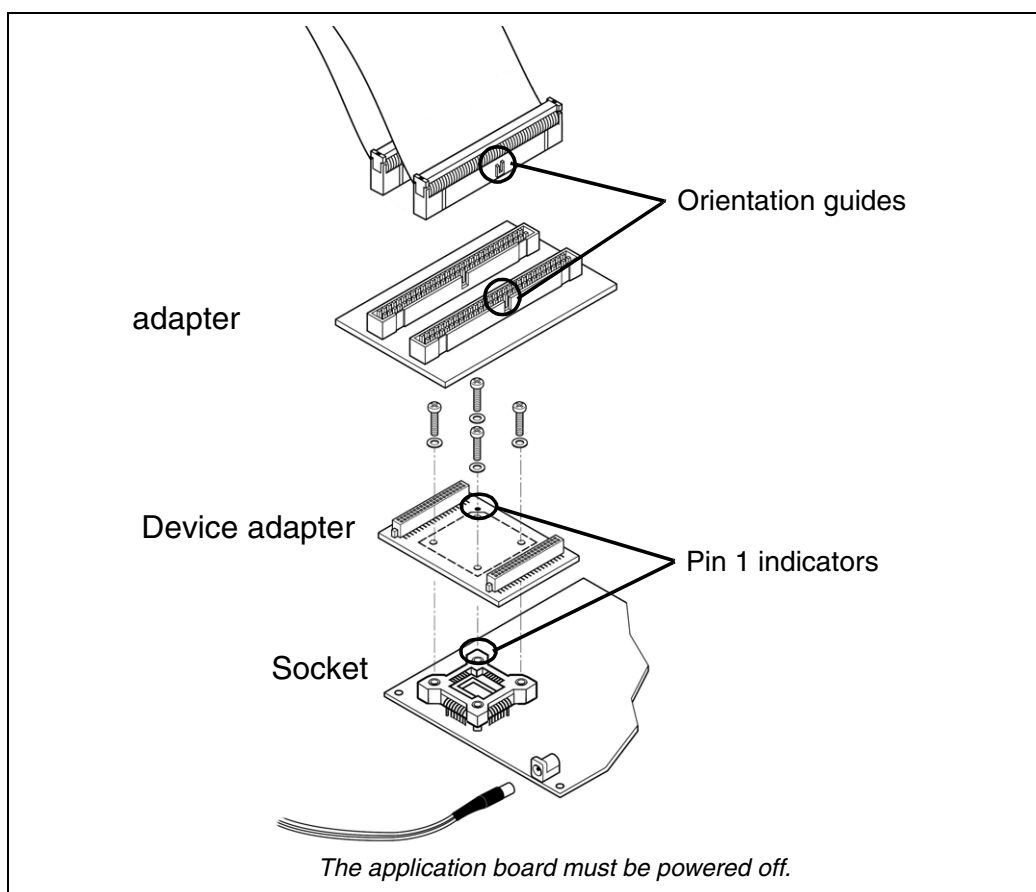

Figure 10: Connection for TQFP44 (10 x 10) package
- 2 Align the pin 1 of the device adapter (Ref.: DB613) with pin 1 of the socket, then secure the device adapter to the socket with the provided screws as shown in Figure 10.